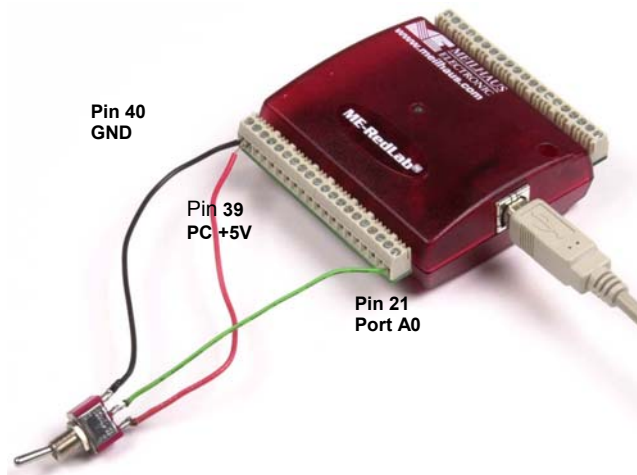
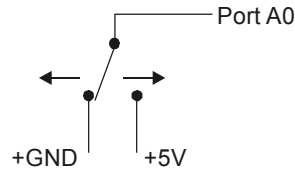

Figure 5. Digital connection of Port A0 detecting the state of a switch
Figure 6. Schematic showing switch detection by digital channel Port A0
When configured for input, you can use the RedLab 1024LS digital I/O terminals to detect the state of any TTL level input. Refer to the switch shown in Figure 5 and the schematic shown in Figure 6. If the switch is set to the +5 V input, Port A0 reads *TRUE* (1). If you move the switch to GND, Port A0 reads *FALSE*.